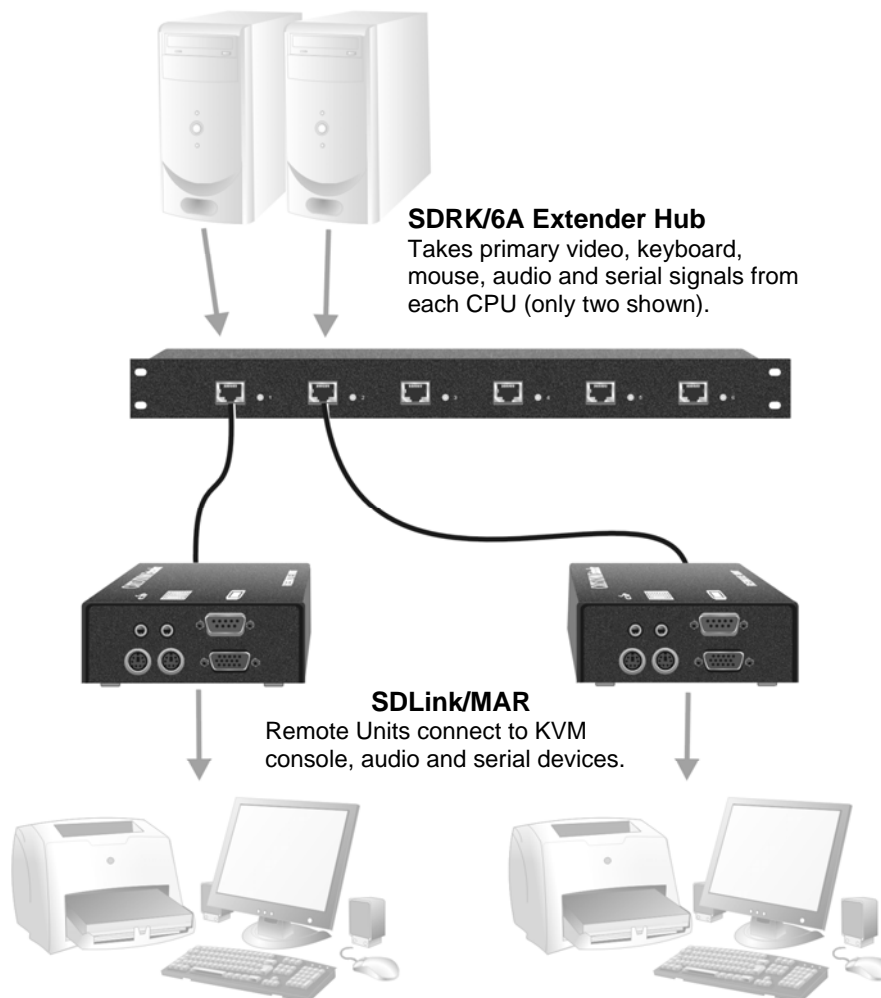

Figure 9 Serial and audio extension for up to six CPUs
- Simple system using SDRK/6A Hub and SDLink/MAR Remote Units to extend audio, serial and KVM for up to six PCs (Figure 9).